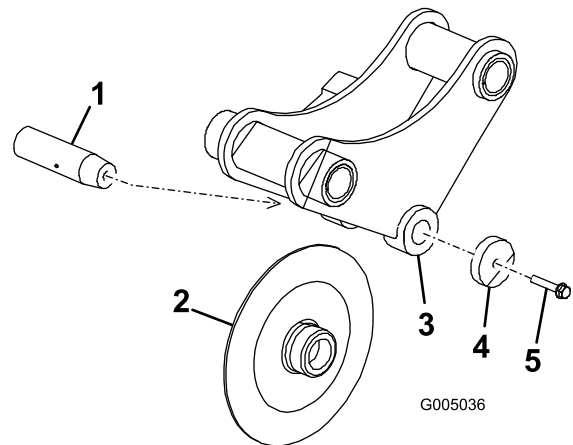

Figure 15
1. Back out the coulter-pin screw about 1.3 cm (0.5 inch), then strike it several times with a hammer to loosen the pin (Figure 15).
2. Completely remove the coulter-pin screw, washer, coulter, and coulter pin (Figure 15).
3. Put the new coulter into the coulter bracket (Figure 15).
4. Slide the coulter pin through the bracket and coulter and secure it with the coulter-pin screw and washer (Figure 15).